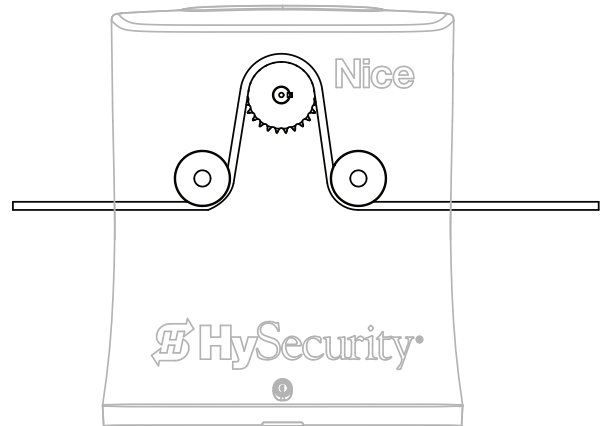

Figure 16. Front Installation Chain Route
8. Route the chain through the idlers and sprocket (Figure 16).